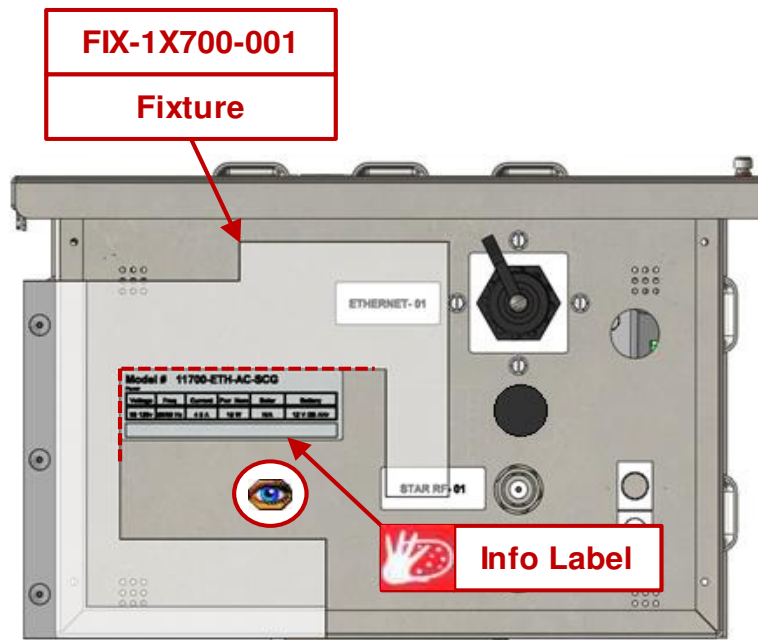

Figure 9: Install Info Label
4.3.3 Refer to **Figure 9** for installation of the info label.